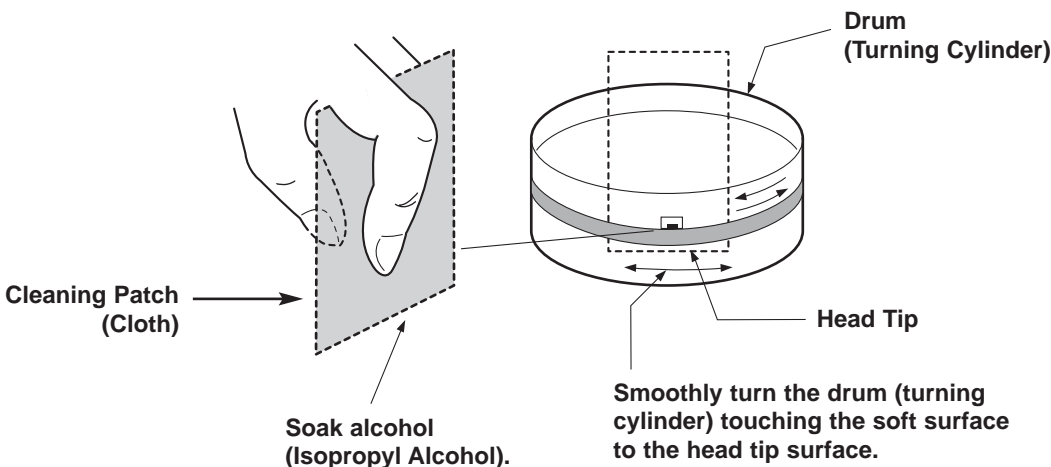

Fig. C-9-4
- (1) Removal of foreign material from video head (Fig. C-9-4)